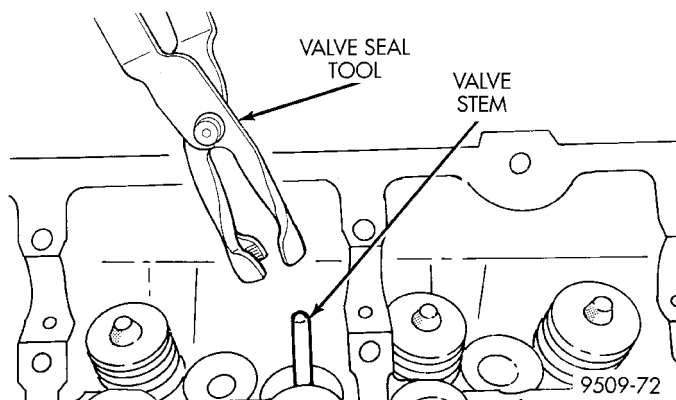

Fig. 99 Valve Stem Oil Seal Tool
(1) Coat valve stems with clean engine oil and insert in cylinder head.
(2) Install new valve stem seals on all valves using a valve stem seal tool (Fig. 99). The valve stem seals should be pushed firmly and squarely over valve guide.